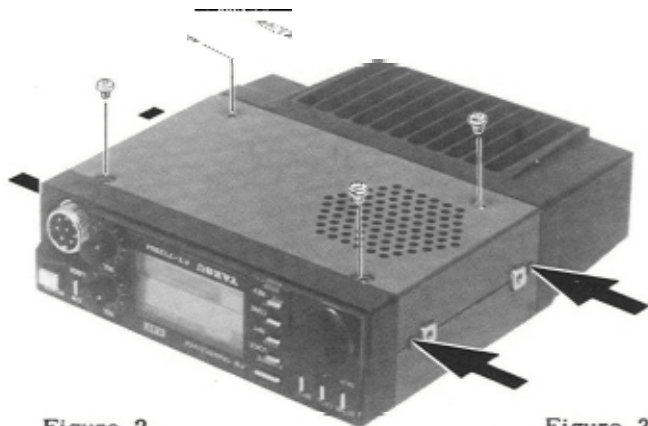

Figure 1.
- (1) Disconnect the power cable at the rear of the transceiver, place the transceiver upside-down on the workbench, and remove the four screws on the bottom cover. Loosen the two screws on each side, and then remove the bottom cover (Figure 1).